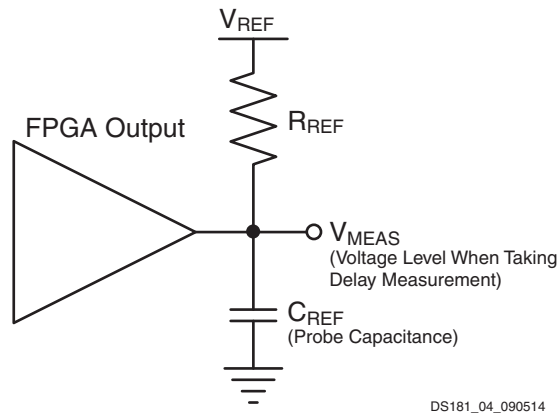
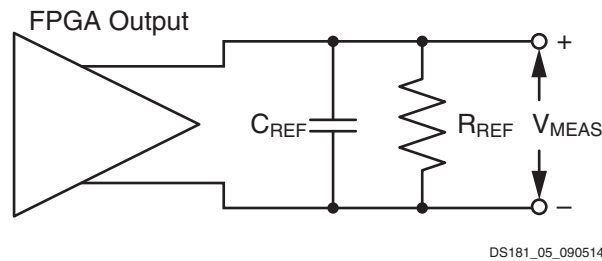

Figure 1: **Single-Ended Test Setup**
Figure 2: **Differential Test Setup**
4. This is an input voltage reference that bears no relation to the V_{REF} / V_{MEAS} parameters found in IBIS models and/or noted in Figure 1.
Output delays are measured with short output traces. Standard termination was used for all testing. The propagation delay of the trace is characterized separately and subtracted from the final measurement, and is therefore not included in the generalized test setups shown in Figure 1 and Figure 2.